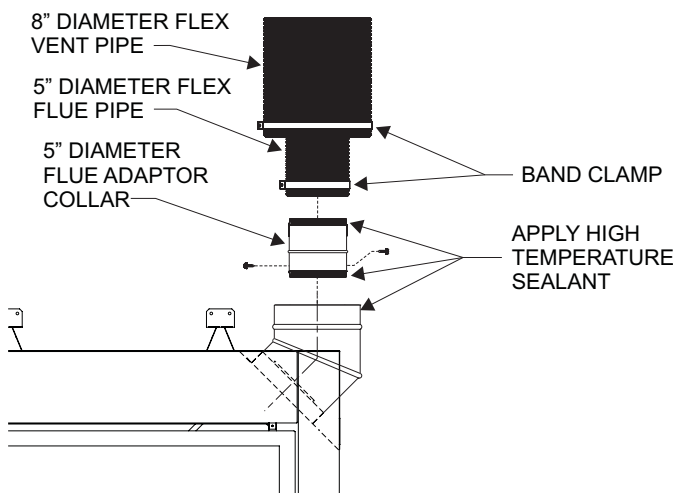

Figure 56
5. Install the Wall Firestop/Thimble assembly as required through the wall. Refer to the venting charts in the fireplace manual to determine the proper height and size of the vent opening. The minimum opening should be 10in wide by 12in high. The minimum combustible clearance from the horizontal vent is 1in from sides and bottom, and 3in above the vent pipe. **See Figure 56.**
10. Apply sealant to the outside of the flue pipe adapter and connect to the flex flue pipe. Then insert the adapter into the 45° elbow's inner flue pipe. Secure flue adapter with a minimum of two screws provided. **See Figure 56.**